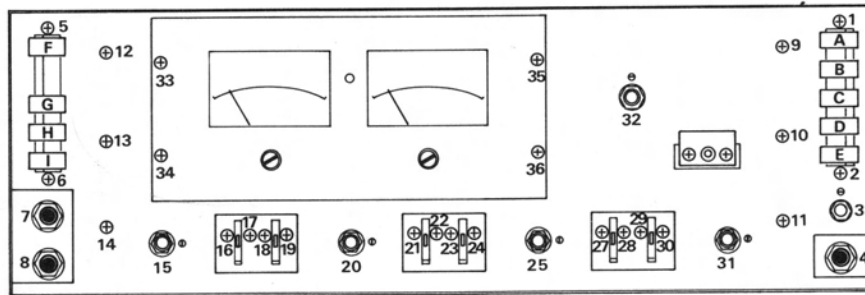

Fig. 1-4 FRONT CHASSIS
- Remove the 5 function knobs (Fig. 1-4, knobs A-E).
- Unscrew the 2 function switch mounting screws (Fig. 1-4, screws 1 and 2).
- Remove the 2 mounting nuts on MIC JACK and MIC VOL., respectively. (Fig. 1-4, nuts 3 and 4).
- Remove the 4 knobs for power switch and speaker switch (Fig. 1-4, knobs F-1), and 2 switch mounting screws (Fig. 1-4, screws 5 and 6).
- Unscrew the 2 headphone jack mounting screws (Fig. 1-4, screws 7 and 8).
- After completing procedures 1 to 3, unscrew the 4 meter decoration board mounting screws (Fig. 1-4, screws 33-36).
- After completing procedures 1 to 3, remove the 9 knobs for FUNCTION POWER AND SPEAKER (Fig. 1-4, knobs A-1), and the 4 switch mounting screws (Fig. 1-4, screws 1, 2, 5, and 6).
- Remove the 4 mounting nuts for MIC VOL., MIC JACK and PHONE JACK. (Fig. 1-4, nuts 3, 4, 7 and 8).
- Remove mounting screws and nuts for all controls on the front chassis (Fig. 1-4, screws, nuts 15-32) 12 screws and 5 nuts), and detach Tone Control Amp. PCB from front chassis.
- After completing procedures 1 and 2, unscrew the 2 left side panel mounting screws. (Fig. 1-4, screws 9 and 10).